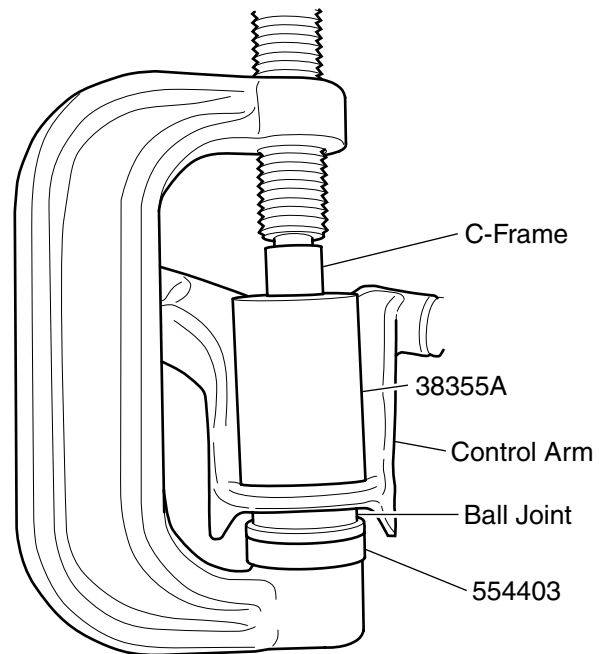

Figure 2. Ball Joint Installation
3. Position 38355A (or 313969) on the ball joint as shown in Figure 2.